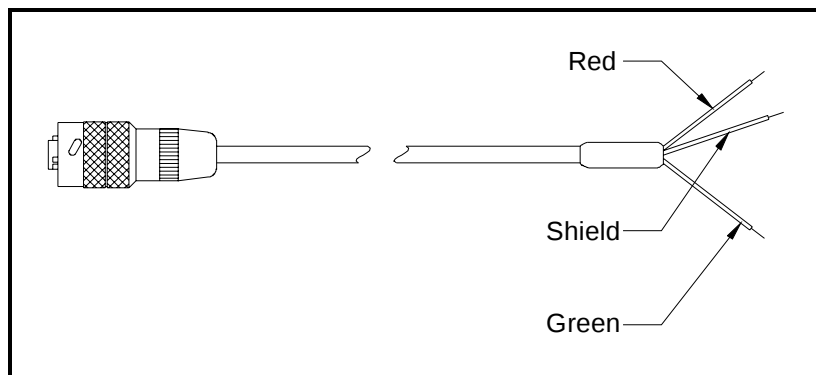
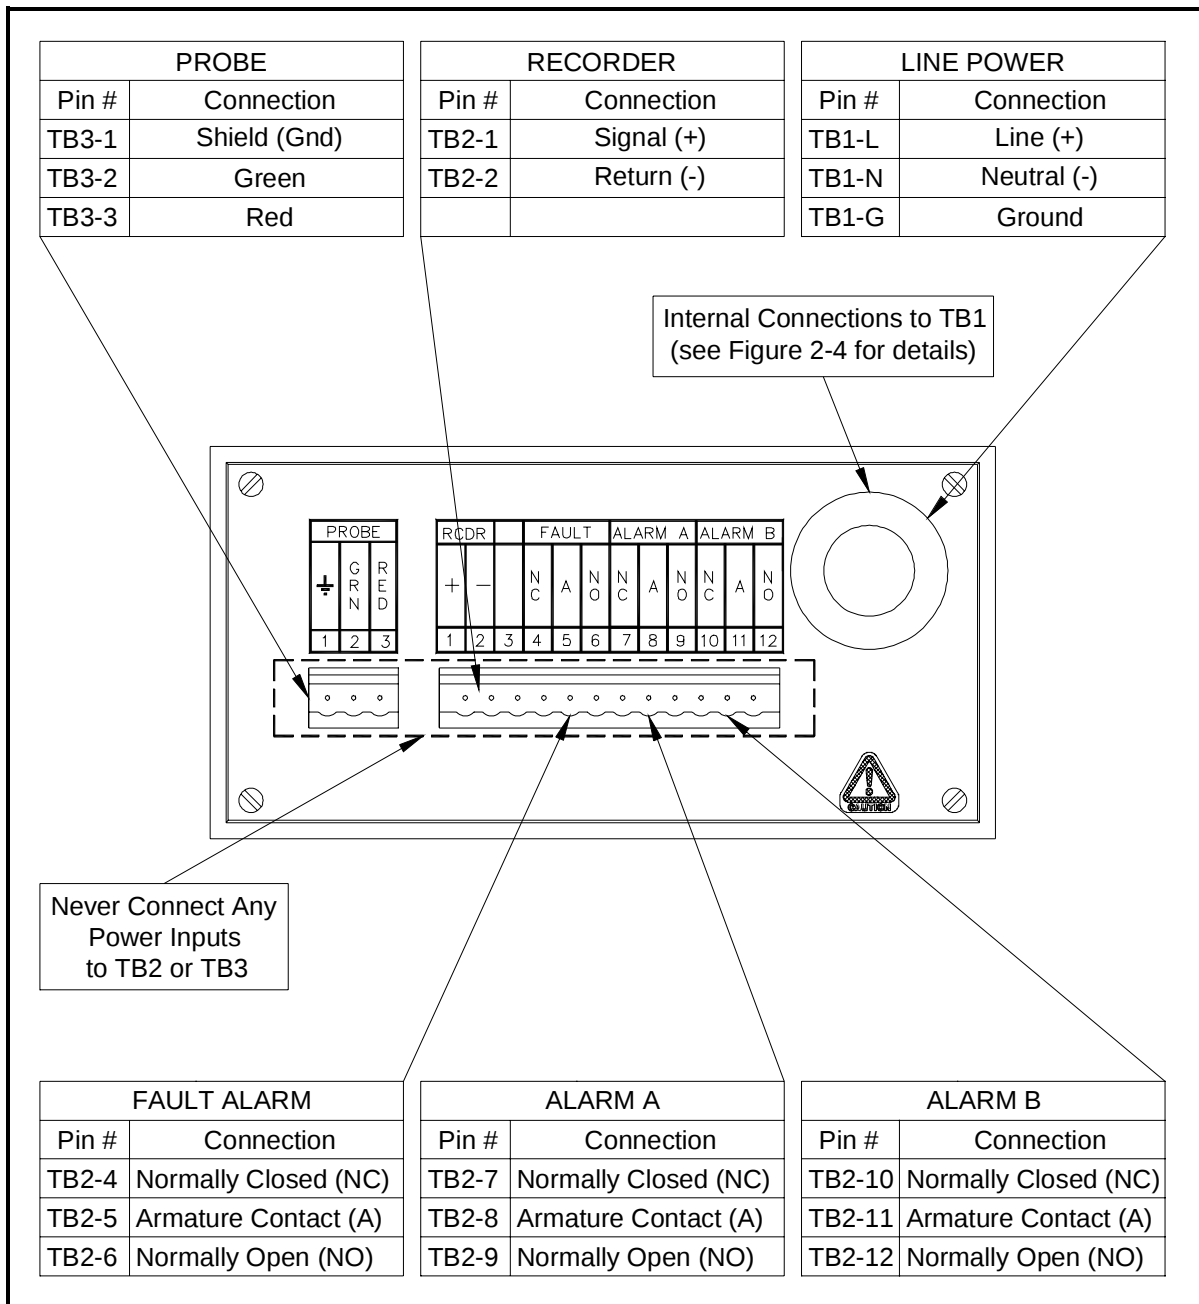

Figure 2-5: Two-Wire Shielded Probe Cable
Figure 2-6: Back Panel Wiring Connections
The probe must be connected to the meter with a continuous run of two-wire shielded cable (see Figure 2-5 below). When connecting the probe, be sure to follow these guidelines for cable use:
2. Connect the probe cable (see Figure 2-5 below) to terminal block TB3 on the back of the meter (see Figure 2-6 on page 2-9).
The hygrometer has one isolated analog recorder output. Connect your recorder to terminal block TB 2 on the back of the meter, as shown in Figure 2-6 on page 2-9.
Connect the recorder output to terminal block TB2 on the back of the meter as shown in Figure 2-6 on page 2-9.
Make connections to the fault alarm through terminal block TB2 on the back of the meter, as shown in Figure 2-6 on page 2-9.
Each of these alarms can be set to trip on a high or low condition. Make the connections to Alarm A and Alarm B relays through the TB2 terminal block on the back of the meter as shown in Figure 2-6 on page 2-9.